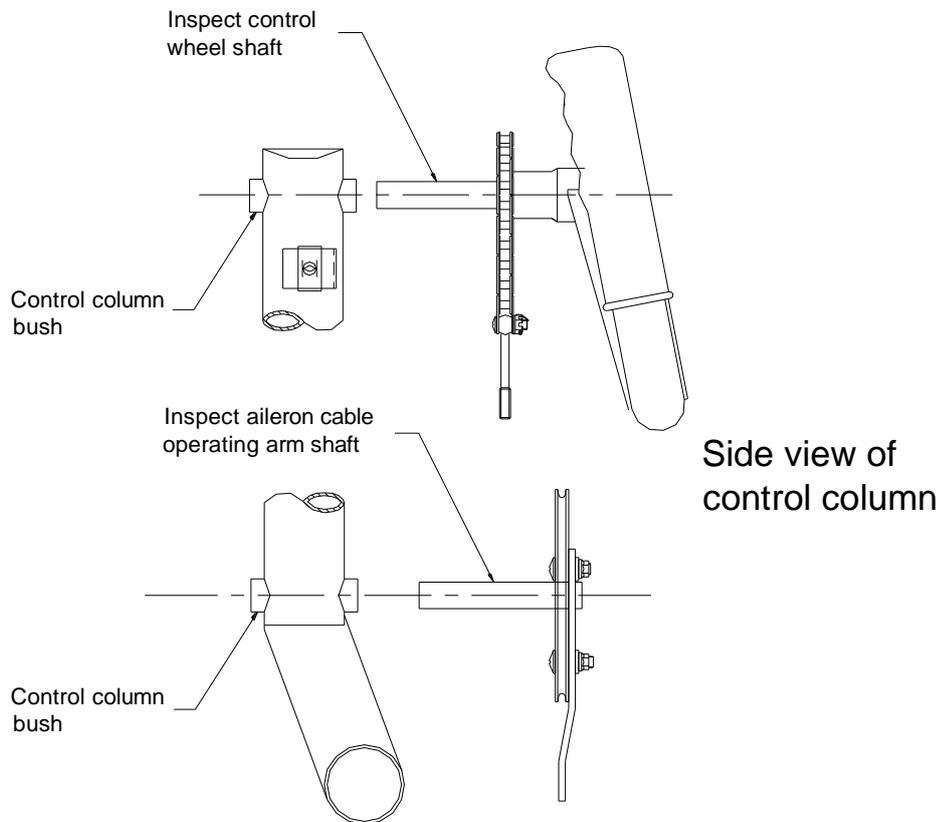

Figure 3
6. Inspect the control wheel and aileron cable operating arm shafts for evidence of wear due to galling between the shaft and the control column bush. Refer to Figure 3.